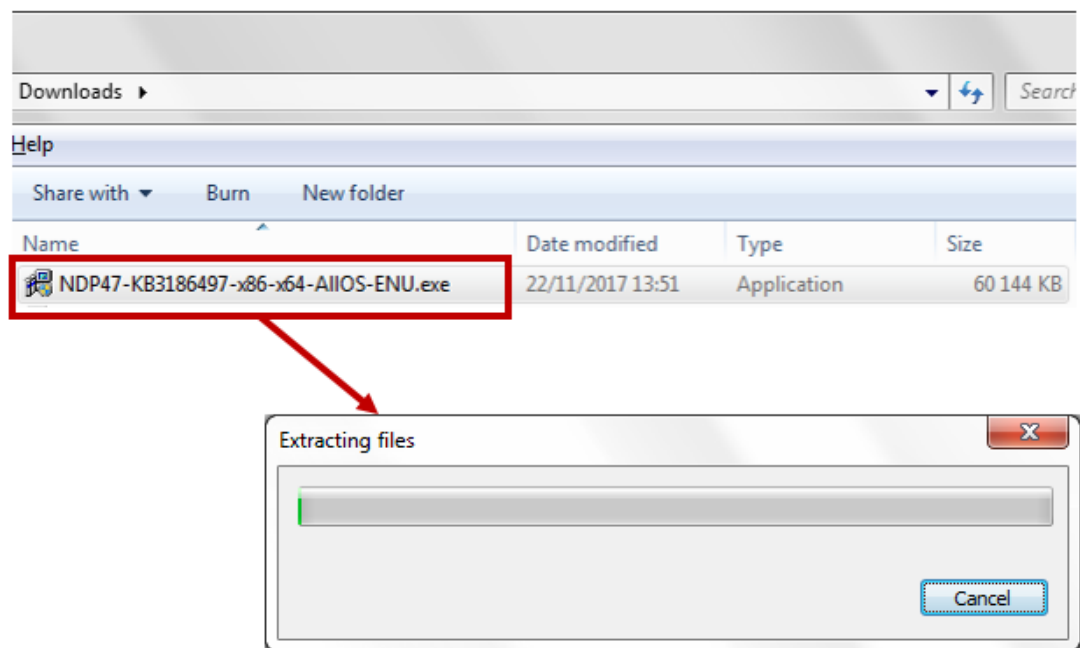

Figure III.1.22: Run Microsoft .NET 4.7 installation.
- Execute file NDP47-KB3186497-x86-x64-AllOS-ENU.exe and let the extraction process progress (see Figure III.1.22)